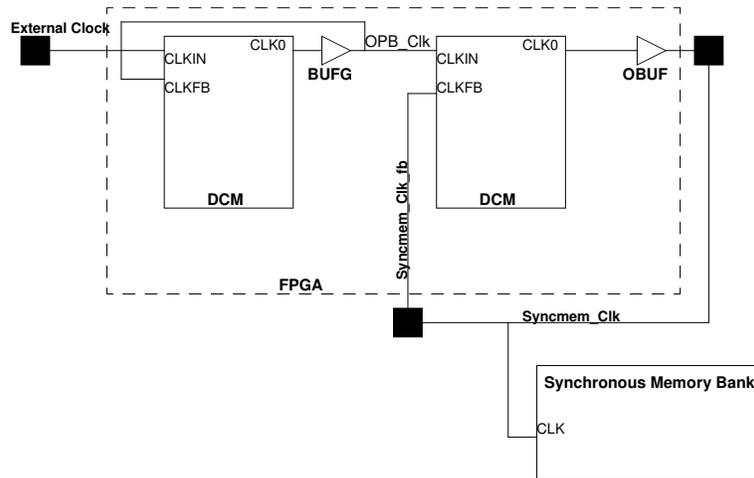

Figure 1: The clocking scheme required for external ZBT memory with clock feedback (from Xilinx's OPB EMC datasheet).
3. The created project should include one DCM module already (`dcm_0`). By selecting `IP Catalog` tab, add another `dcm_module` instance. The two DCM modules will be used to create the clocking scheme shown in Figure 1.
8. Your system should still be configured for the clocking scheme from the single-bank portion of the lab (see Figure 1). Double-check that this is so and connect the clock signals to all four memory banks by creating the following external ports: